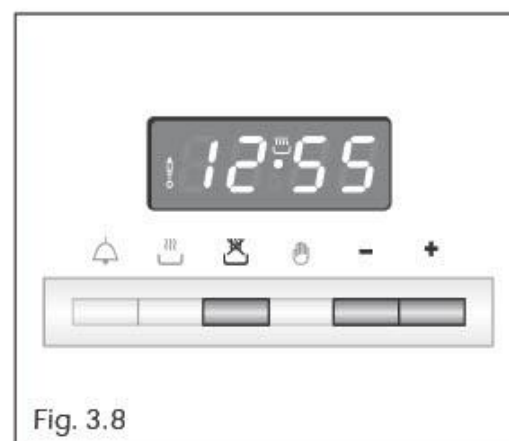

Fig. 3.8
2. Set the end of the cooking time by pushing the button and the button to advance, or to go backwards if you have passed the desired time (Fig. 3.8).